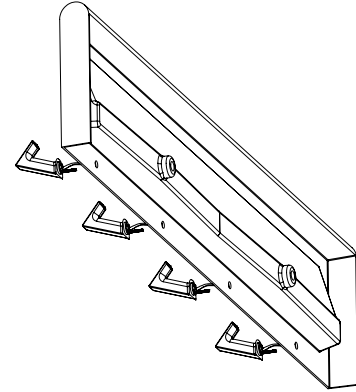

Figure 15
15. Install Faucet spouts, (Figure 15) onto sink according to manufacturer's instructions provided with components.